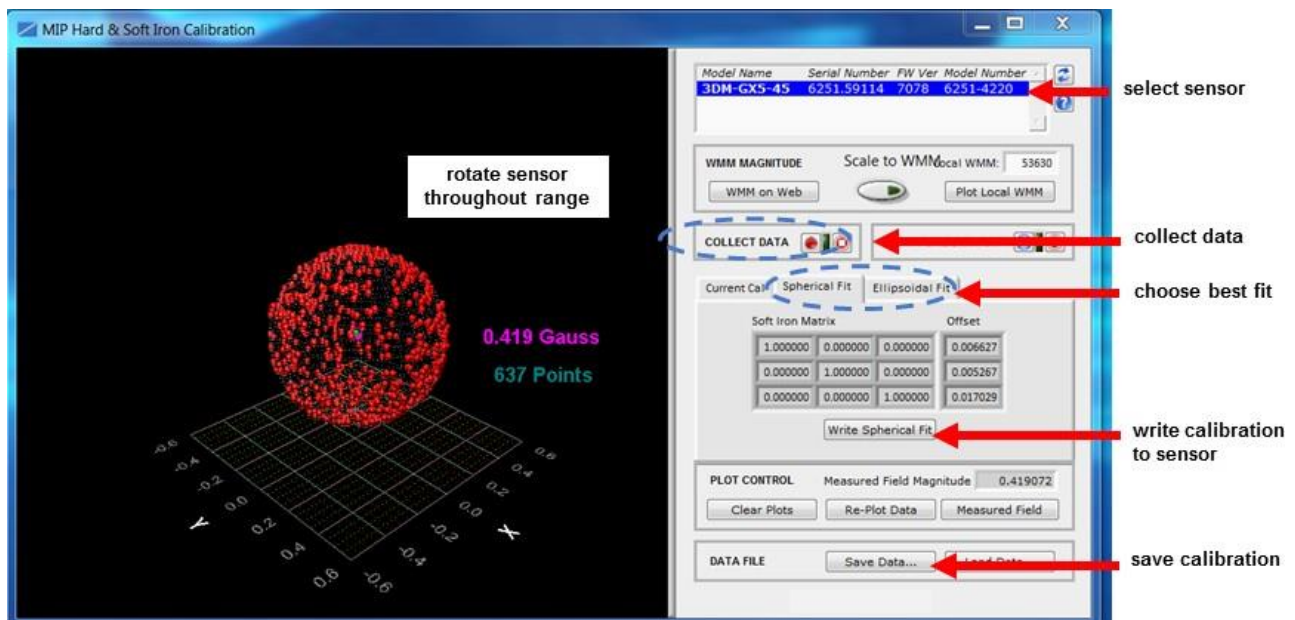

Figure 27 -Collect Calibration Data
- Click the Spherical Fit or Ellipsoid Fit button, depending on the application (*Figure 27 - Collect Calibration Data*). Spherical Fit is often best for applications with calibration rotations restricted to a 2D plane: for example, a ground vehicle or a boat, because it will not likely not be rotated on all three axis. Ellipsoid Fit is generally a better correction when soft iron effects are present but only if enough data points can be collected in all